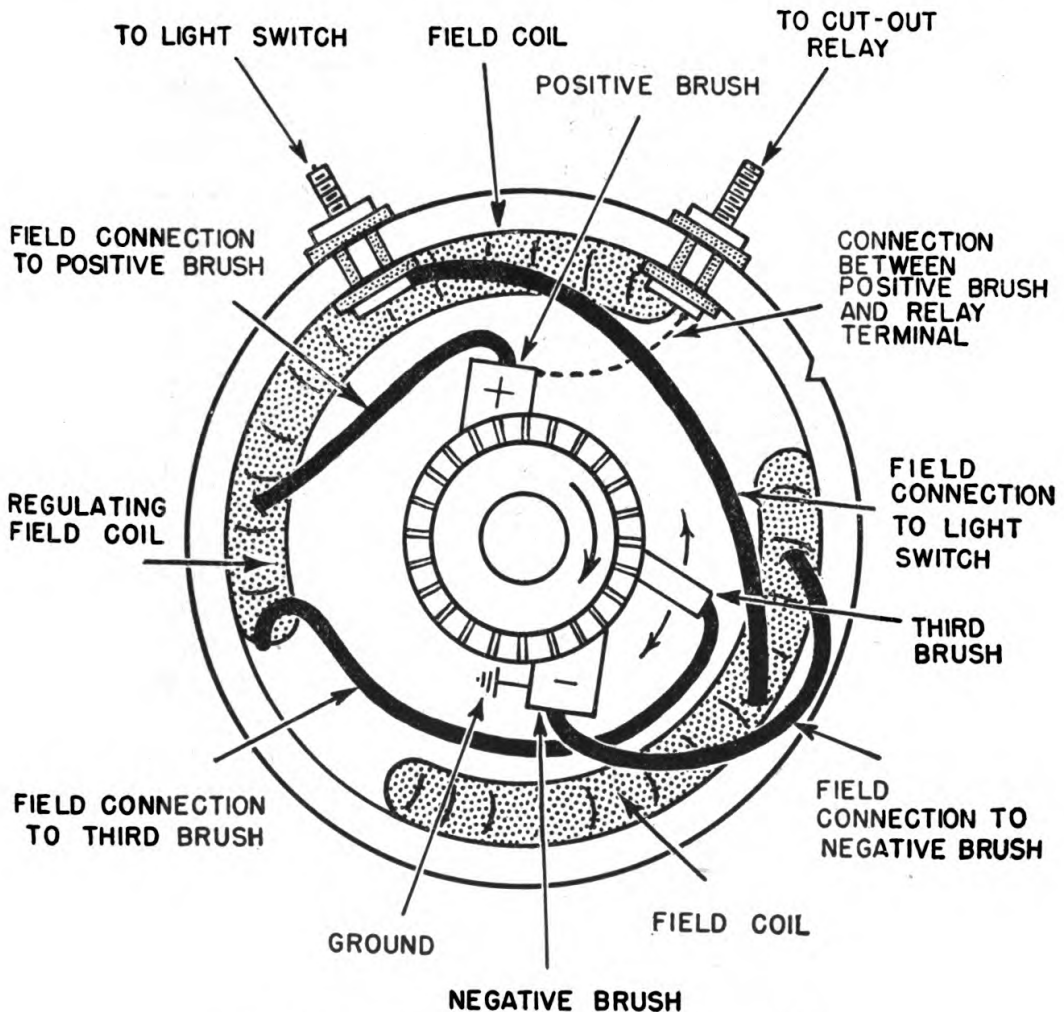

FIGURE 92.—Harley-Davidson shunt-coil generator.
*b. Harley-Davidson generator.*—(1) The generators of the Indian and Harley-Davidson motorcycles are substantially the same. However, the Harley-Davidson generator is connected so that the output is almost doubled when the light switch is turned on. Thus the same amount of current is available for the battery whether the lights are turned on or off.
(2) Figure 92 illustrates how a Harley-Davidson generator is connected internally. One of the field coils is connected to the positive brush and the third brush. The shunt field coil is connected to the grounded brush and the hot post (live terminal) on the lighting switch. When the light switch is turned off, the first field coil func-